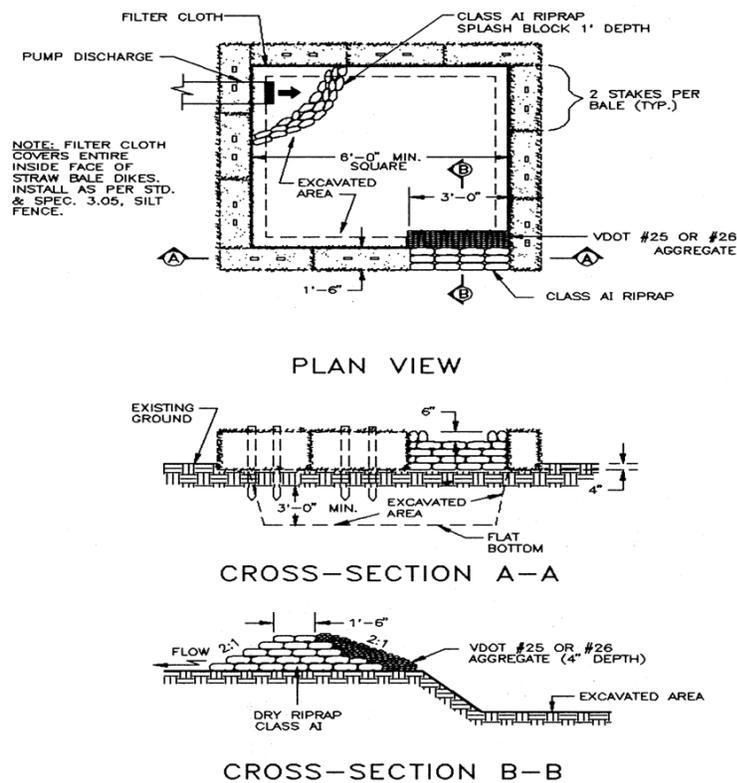

Figure 4 – Example of Dewatering Pit Design
- For large projects, construct a dewatering pit using straw bales and filter fabric to filter the water prior to discharge (see Figure 4).